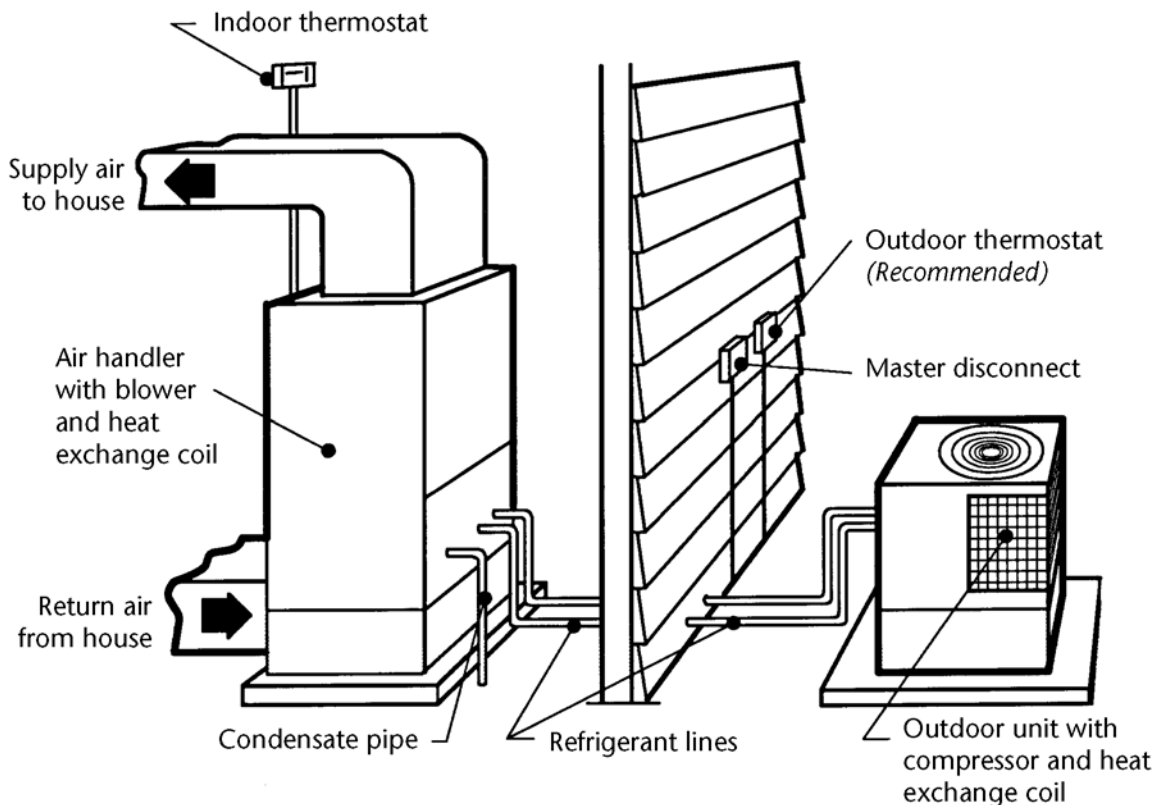

Figure 7-3
- For Split System, a minimum of 7.7 HSPF (Heating Seasonal Performance Factor). (See WSEC Table 14-1B.) (See Figure 7-3.)